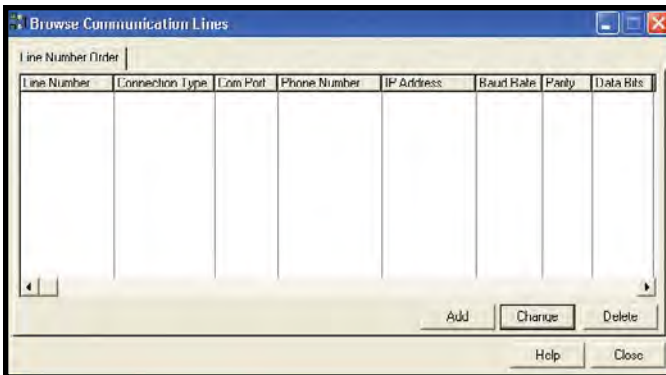

Figure 76. Out-of-the-Box™, Browse Communication Lines window
- II. Click the “Add” button in the “Browse Communication Lines” window (see Figure 76).